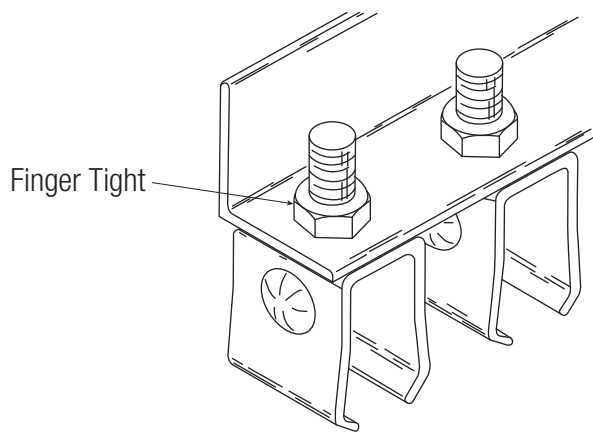

Figure: 9-1
1. Install hanger and anchor clamps as required. See **Figure 9-1**.